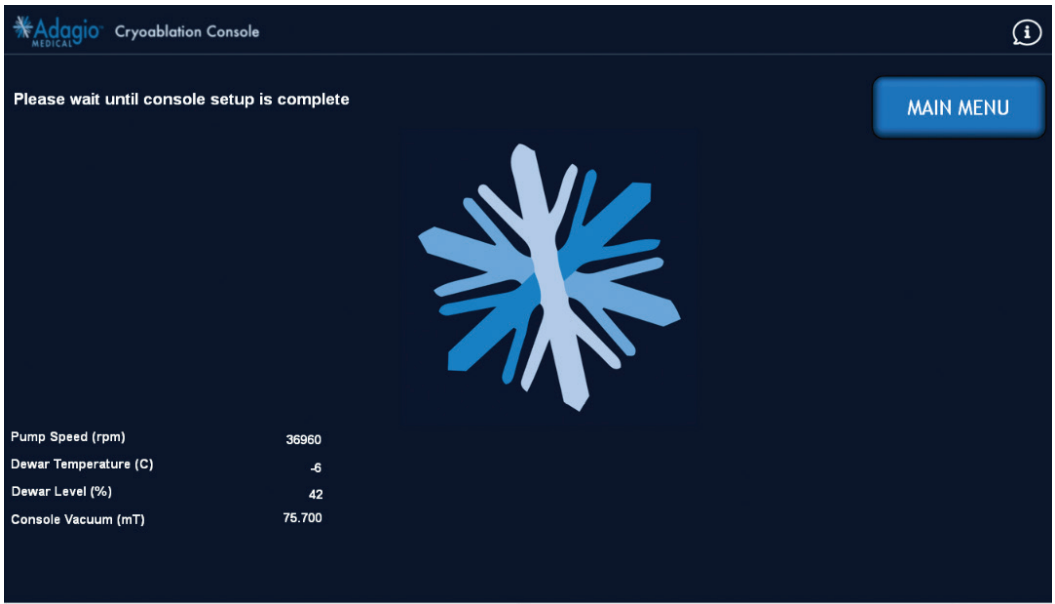

Figure 16 – Prepare Console Test Screen Image
4. The console will automatically run the Prepare Console (Vacuum) test as shown in *Figure 16*.